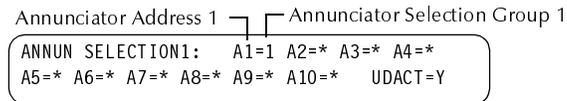

Figure 31 Annunciator Selection Screen
2. Enter Annunciator Selection Group 1 for Annunciator Address 1(Figure 31):